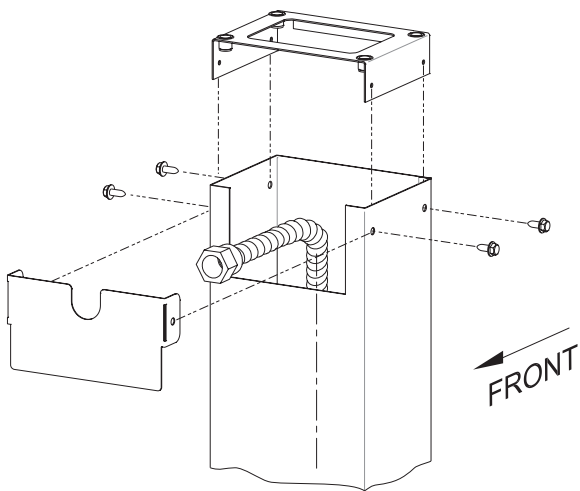

Figure 6
4. Attach the grease cup bracket assembly to the bottom of the grill casting and fasten with #10-24 x 3/4" bolt, 9/32 ID x 5/8 OD washer, and #10-24 wing nut. See Figure 6.
**For Grill Heads other than R3 Series:** Slide the Upper Bracket into the post. Secure the Upper bracket to the top of the square post using four #10 – 1/2 Self Drill screws. See Figure 6.